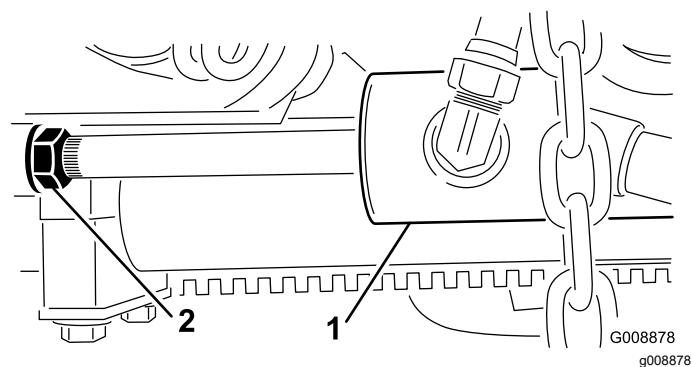

Figure 13
B. Back off the jam nut on the cylinder (Figure 13).